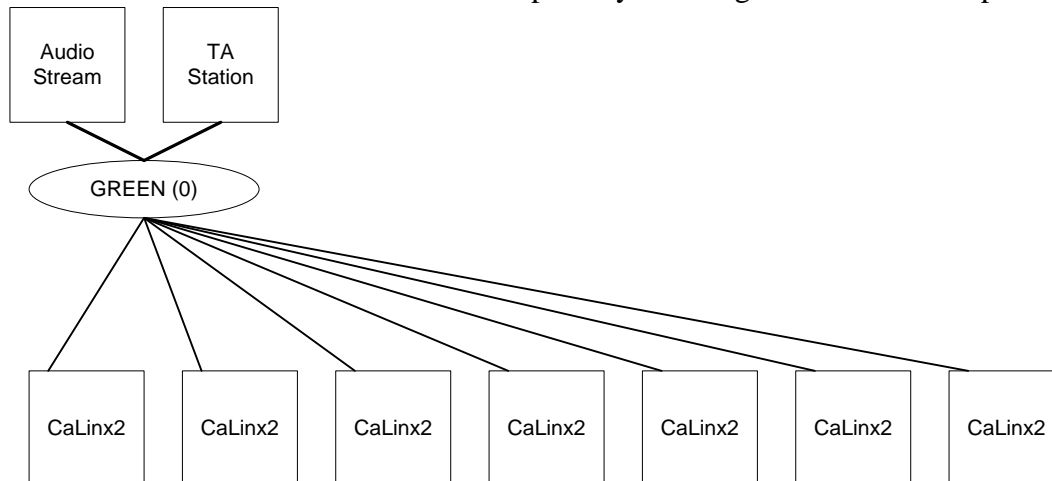

Figure 1: Network Organization for Lab #5
Figure 1 below is a simple diagram of the test network set up in 125 Cory for this lab. Notice that the **green (0) network** is fully connected to all boards and will carry the **broadcast audio stream** which you will be receiving.